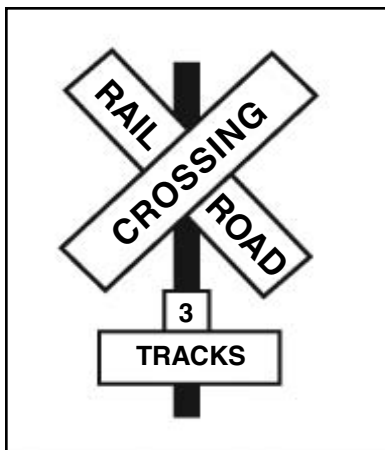

Figure 2.17
**Crossbuck signs.** This sign marks the grade crossing. It requires you to yield the right-of-way to the train. If there is no white line painted on the pavement, you must stop the vehicle before the crossbuck sign. When the road crosses over more than one set of tracks, a sign below the crossbuck indicates the number of tracks. See Figure 2.17.